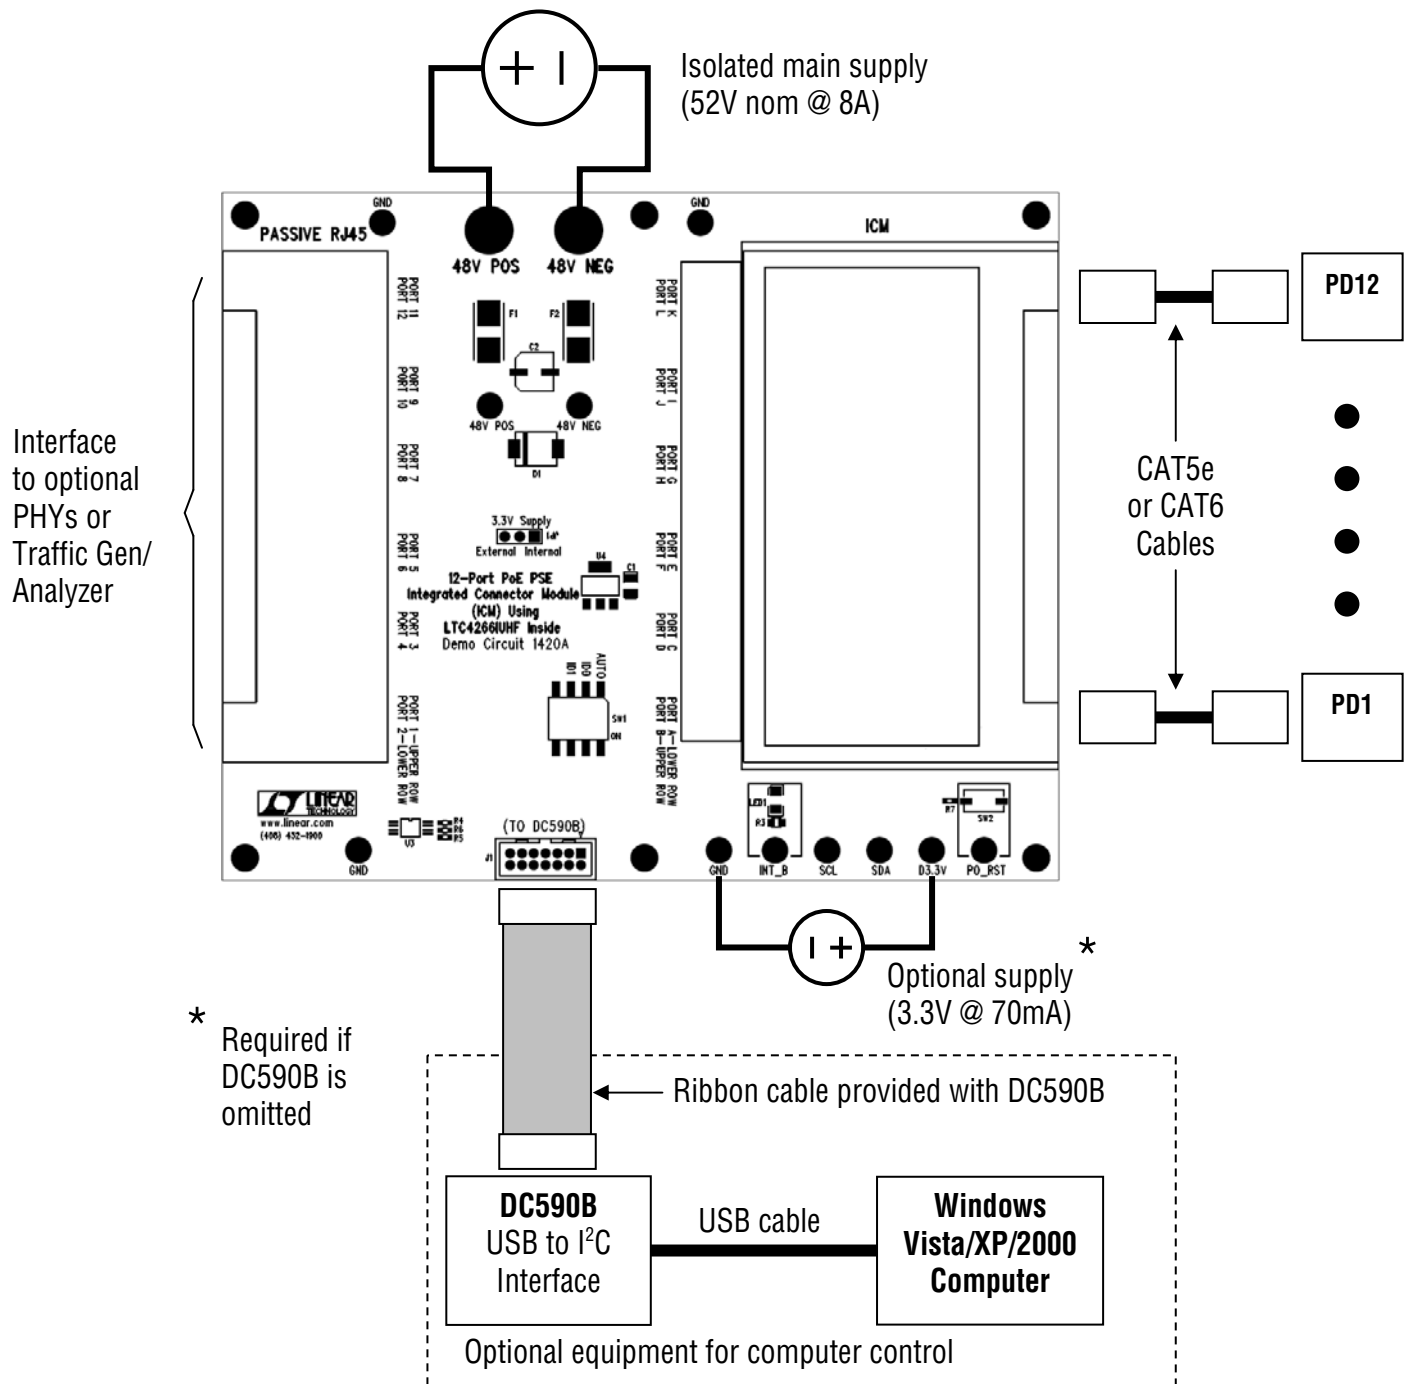

Figure 1. DC1420A Board Setup.
Figure 1 shows the basic setup. The computer and DC590B board shown at the bottom of Figure 1 can be omitted when running the PSE-ICM in auto mode, but an external power supply would then be required to provide 3.3V.
2. Connect a 3.3V power supply to the D3.3V and GND test points as shown in Figure 1.